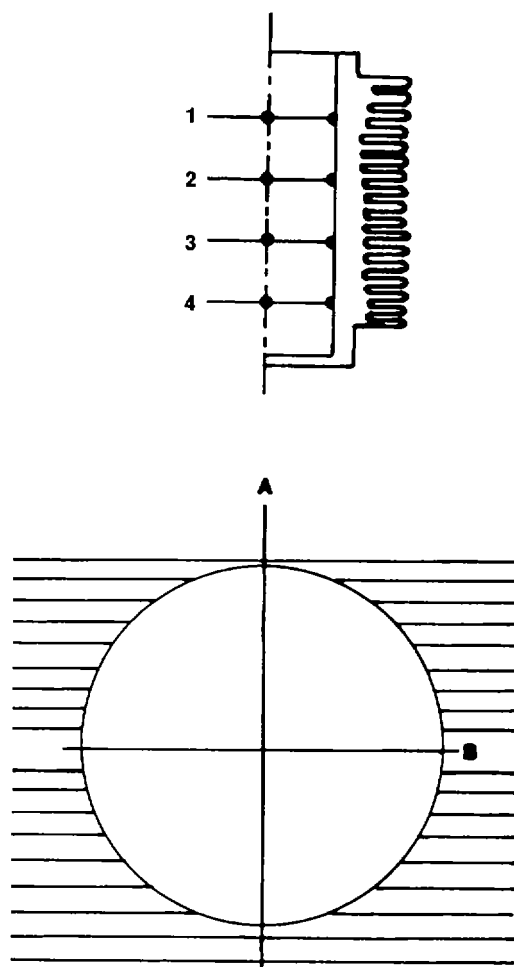

Figure 4-17. Measuring the Cylinder Bore
- l. Measure cylinder bore at levels 1 to 4 of engine centerline as well as crossline b (figure 4-17).